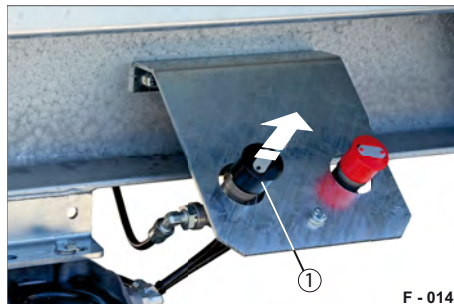

Fig. 17 Service brake in drive position
- ▶ Pull the release valve (Fig. 17/1).